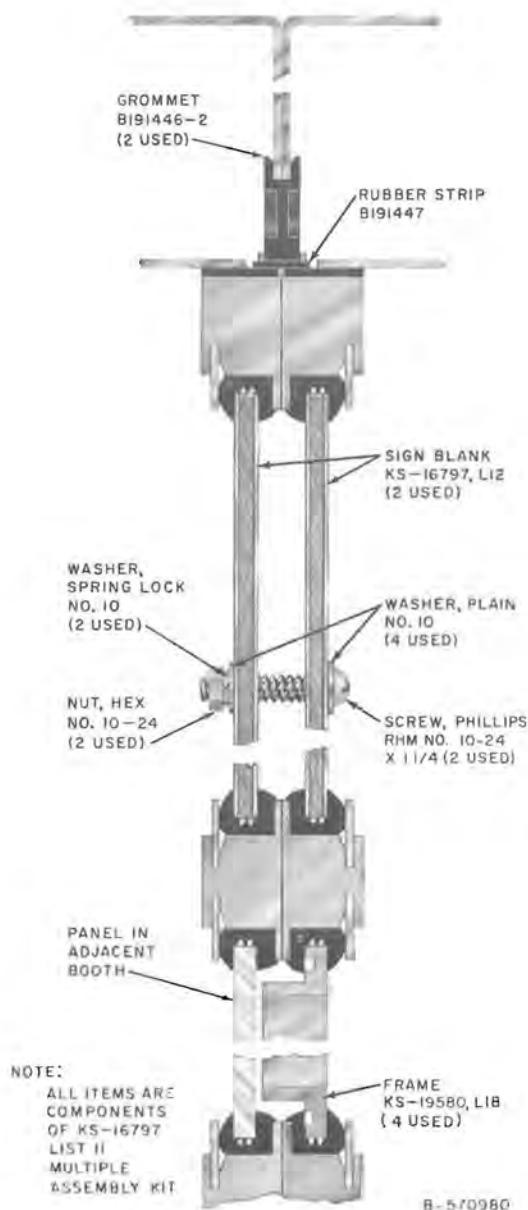

Fig. 16—KS-16797, List 11 Multiple Kit
2.26 A KS-16797, List 11 multiple kit (Fig. 16) is available for side-by-side or back-to-back assemblies. It consists of the following: